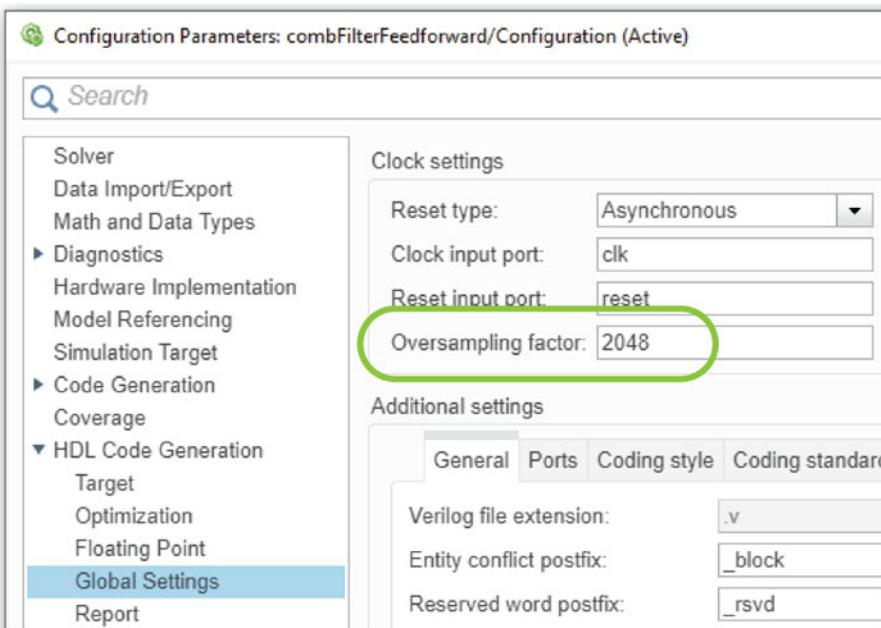

Fig. 2.13: Setting the oversampling factor to match the FPGA clock frequency
- Step 2: Select *Global Settings* under *HDL Code Generation* as seen in Fig. 2.13.